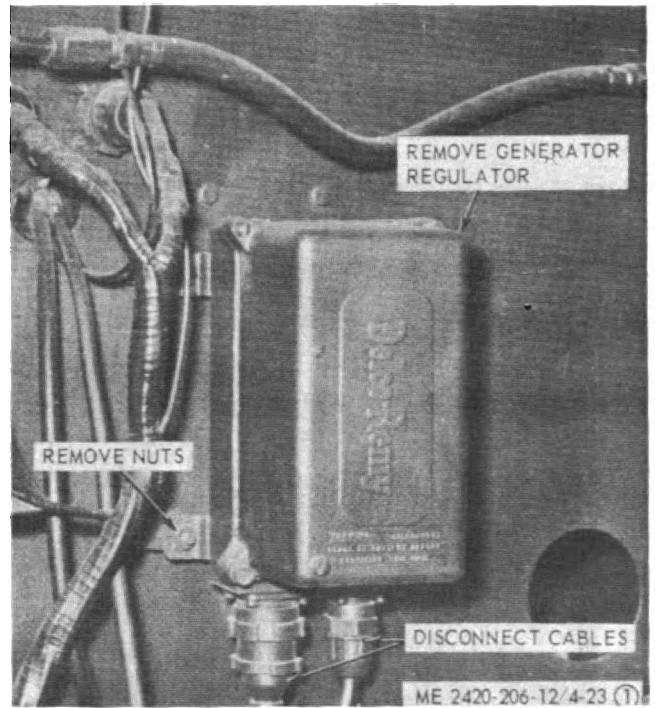

Figure 4-23. Generator regulator, testing, removal and installation (sheet 1 of 2).
(b) Insert testing harness, Fig 4-23, in generator regulator circuit. Open the field circuit at slip connection, then operate generator at medium
(c) Insert testing harness, fig 4-23, in generator regulator circuit. Operate generator regulator at medium speed and (battery connected) momentarily connect T-3 to T-1 (armature) and increase generator speed. If output does not increase, check generator. If output increases, remove generator regulator for adjustment or refer to direct support maintenance for repair.
c. *Removal.* Remove defective, damaged, generator regulator as illustrated in figure 4-23. Tape ends of cables to avoid short circuiting.